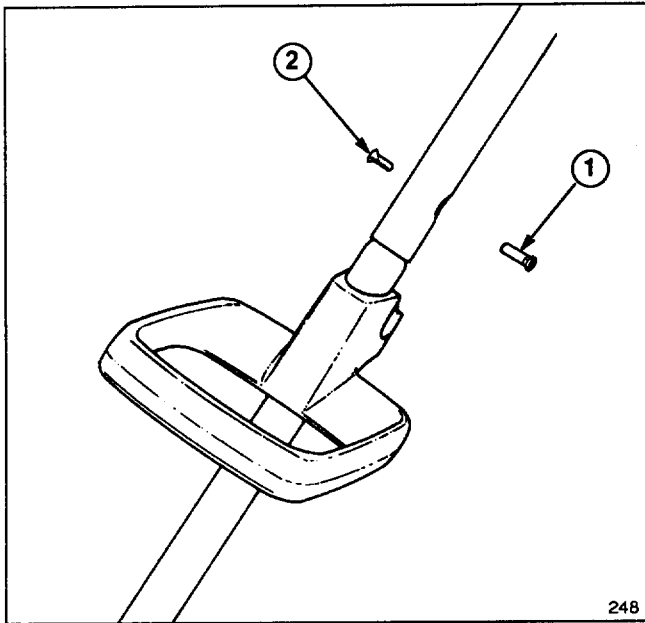

Figure 3
3. Slide lower tube into upper tube until screw holes are aligned (Fig. 3).
4. Secure upper and lower tubes by inserting countersunk nut and slotted screw (supplied in loose parts bag) through the aligned holes in tubing (Fig. 3).